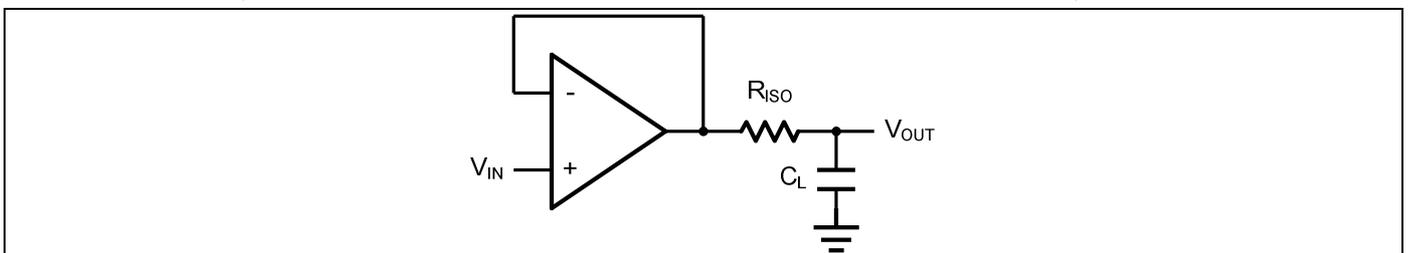
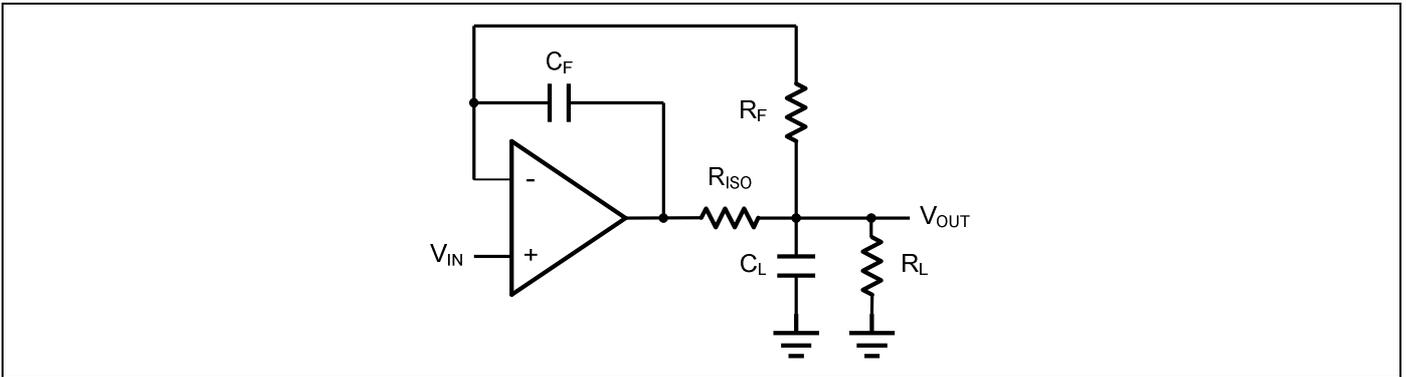

Figure 2. Indirectly Driving a Capacitive Load Using Isolation Resistor
Figure 3. Indirectly Driving a Capacitive Load with DC Accuracy
The OPAx376 family is optimized for bandwidth and speed, not for driving capacitive loads. Output capacitance will create a pole in the amplifier's feedback path, leading to excessive peaking and potential oscillation. If dealing with load capacitance is a requirement of the application, the two strategies to consider are (1) using a small resistor in series with the amplifier's output and the load capacitance and (2) reducing the bandwidth of the amplifier's feedback loop by increasing the overall noise gain. Figure 2. shows a unity gain follower using the series resistor strategy. The resistor isolates the output from the capacitance and, more importantly, creates a zero in the feedback path that compensates for the pole created by the output capacitance.
The circuit in Figure 3 is an improvement to the one in Figure 2.  $R_F$  provides the DC accuracy by feed-forward the  $V_{IN}$  to  $R_L$ .  $C_F$  and  $R_{ISO}$  serve to counteract the loss of phase margin by feeding the high frequency component of the output signal back to the amplifier's inverting input, thereby preserving the phase margin in the overall feedback loop. Capacitive drive can be increased by increasing the value of  $C_F$ . This in turn will slow down the pulse response.